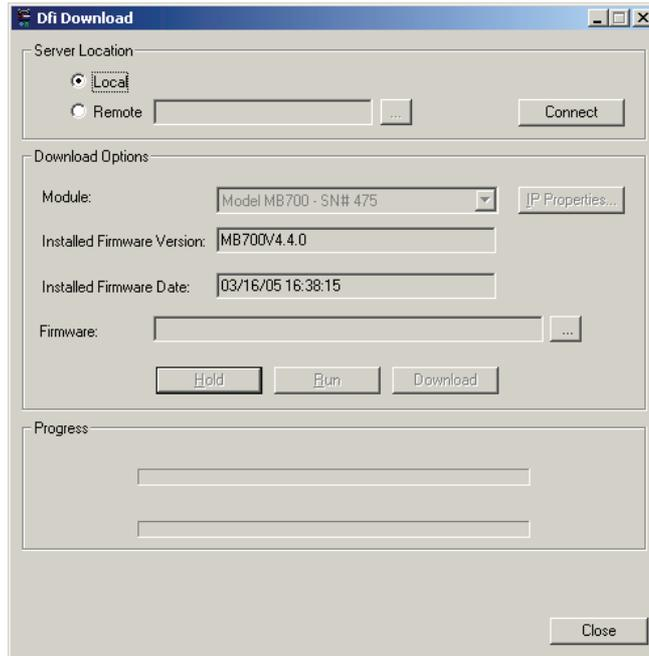

Figure 3.6 – Dfi Download – Connect (2)
17. Be sure the HOLD LED is ON. After stopping the firmware execution in the module, the window will appear again (See Figure 3.6).